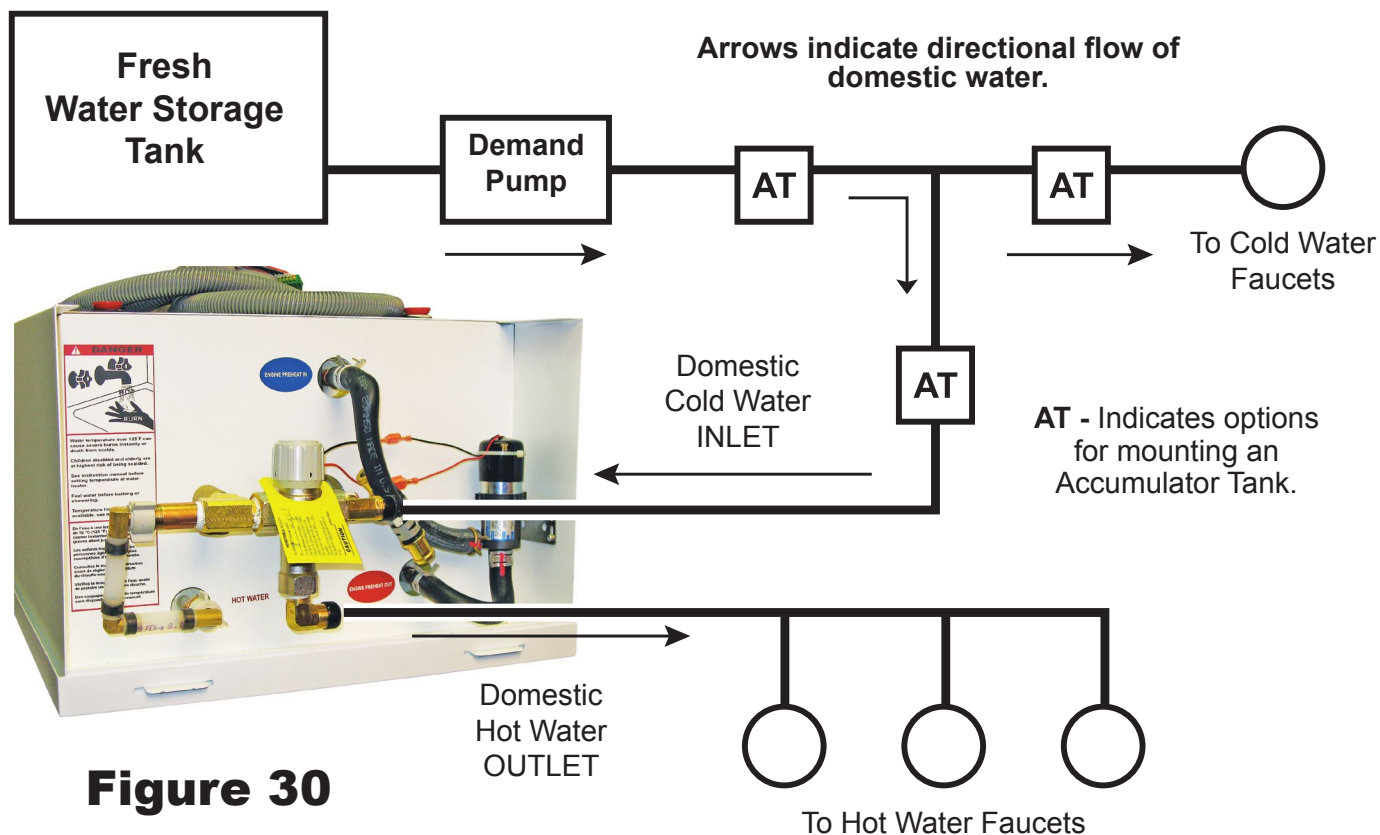

Figure 30
NOTE: Please note that it may be necessary to utilize an accumulator tank within the domestic water system. Reference Figure 30. Although the Aqua-Hot is equipped with a pressure-relief valve, the use of an accumulator tank will help prevent excessive “weeping” of the valve. Manufacturers of pressure-relief valves indicate that excessive weeping of these valves will cause the “seat” in the valve to deteriorate, and, in turn, the valve will fail prematurely. For additional information regarding accumulator tanks, please be sure to reference the Recreational Vehicle Industry Association’s (RVIA) technical publication titled “Recreational Vehicle Plumbing Systems.” To obtain a copy of this particular publication, please contact RVIA at (703) 620-6003 or visit them online at www.rvia.org.